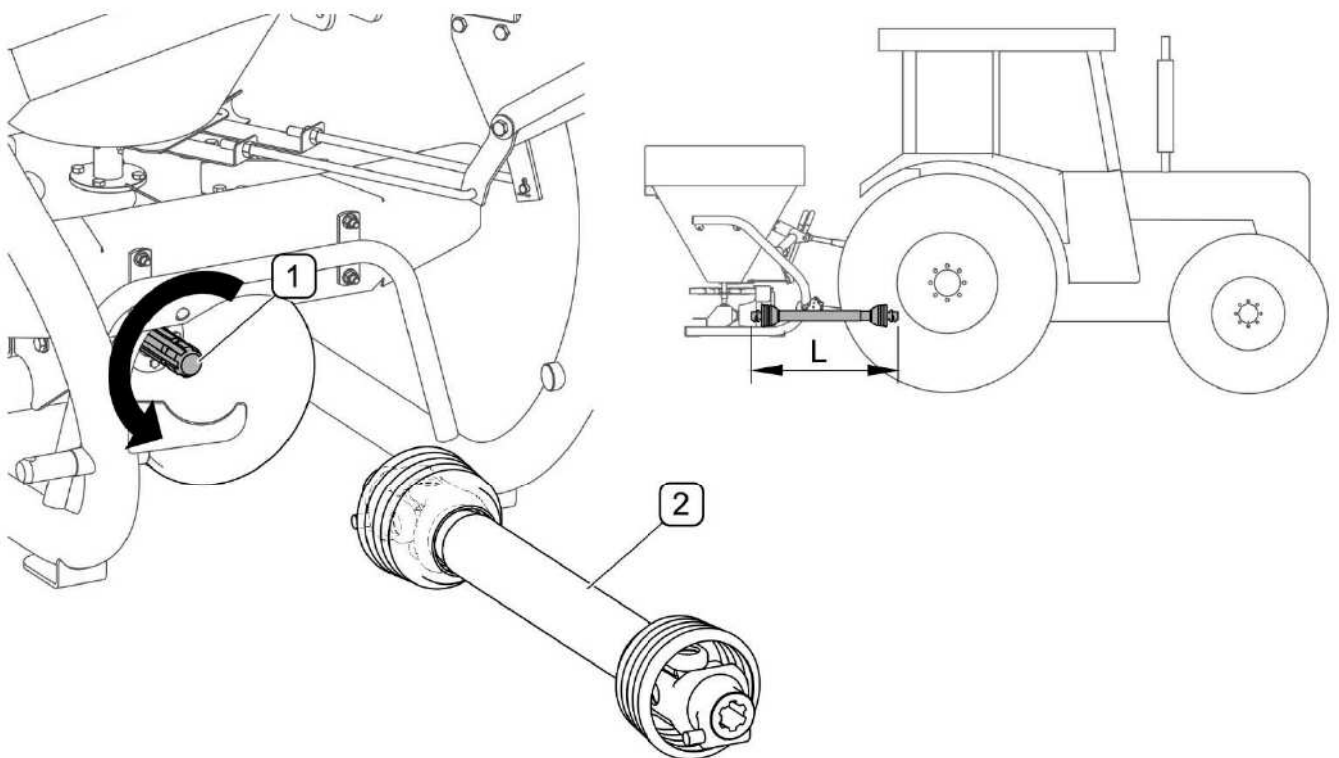

FIG. 4.2 Connecting of PTO shaft
Before connecting the PTO shaft it is absolutely necessary to carefully read the Operator's Manual attached by the Manufacturer of the shaft and observe the instructions contained in it. Before connection to the tractor, check technical condition of shaft guards, completeness and condition of protecting chains and general technical condition of PTO shaft. The shaft length should be equal to (L) in order to enable its connection to the hitched machine (FIG. 4.2), i.e. it should not be longer than the distance between the front of the machine's PTO shaft and the front of the tractor's PTO shaft. This distance varies depending on tractor models and it may be within the range 820 ÷ 900 mm for category II three point linkage. While working, the PTO shaft should rotate to the left (*looking at the shaft front in the machine*) (FIG. 4.2)